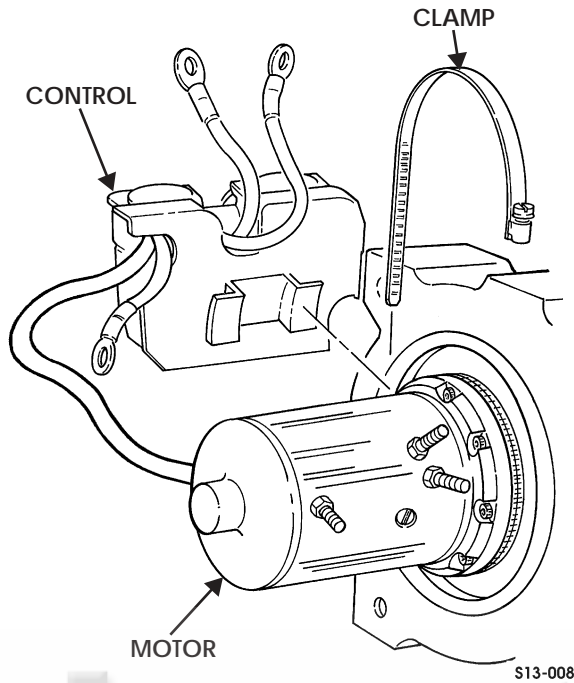

Figure 13-20: Control Unit and Motor
27. Install two clamps on motor (Figure 13-20).